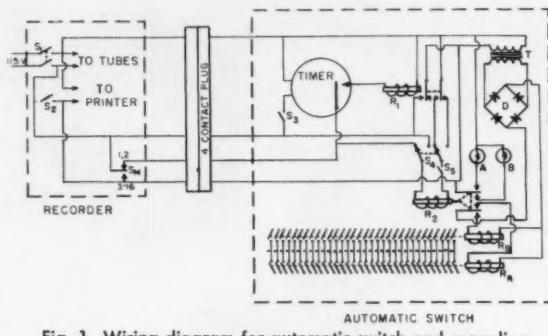

Fig. 1 Wiring diagram for automatic switch and recording potentiometer
The primary change to the potentiometer is the addition of a SPDT microswitch ( $S_M$ ) as described by Hinkle (3). The microswitch is in the position shown in Fig. 1 during the recording of points 1 and 2, and in the opposite position for points 3 through 16 (for a 16-point recorder).
Four wires connect the potentiometer to the automatic switch as shown in Fig. 1. The wiring inside the potentiometer consists simply of connecting the microswitch as shown and adding the wires to the plug connecting the potentiometer and switch.
The automatic switch is constructed as a separate unit as shown in Fig. 2. The time clock and all controls are located on the front panel. Thermocouples are attached to terminal strips on the rear panel. The 32 thermocouples (with a 16-point recording potentiometer) are connected to the potentiometer through two 32-point, single-throw, gold-plated contact relays ( $R_A$  and  $R_B$ ). The relays are connected to the potentiometer with thermocouple wire through a 32-prong plug not shown in Fig. 1; thus it is possible to separate the potentiometer and switch simply by unplugging the power plug and the thermocouple plug.